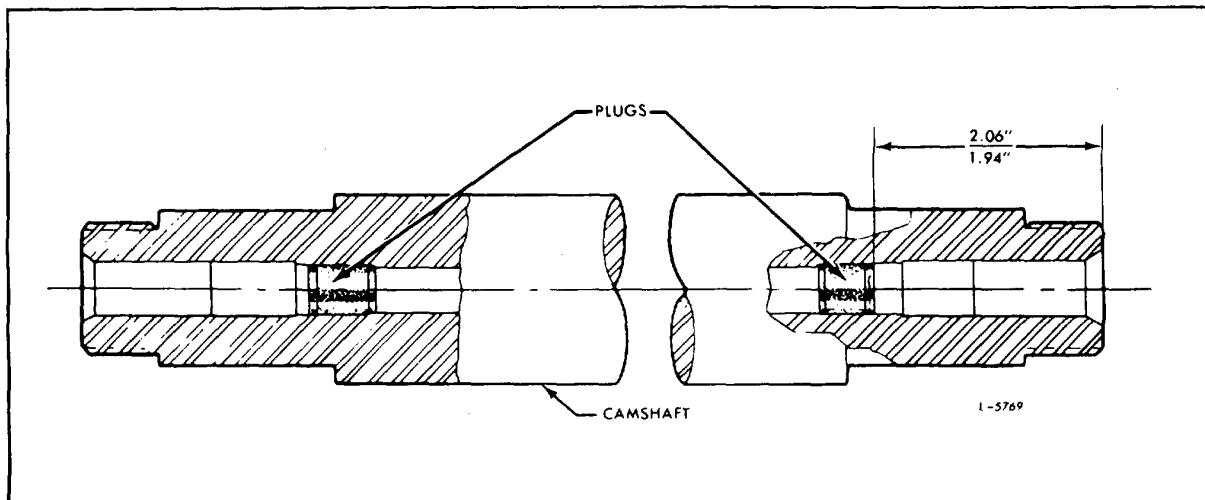

Fig. 12. Camshaft Plug Installation
1. Install new end plugs in the camshaft. Press the plugs in to a depth of 1.940 " to 2.060 " (Fig. 12).